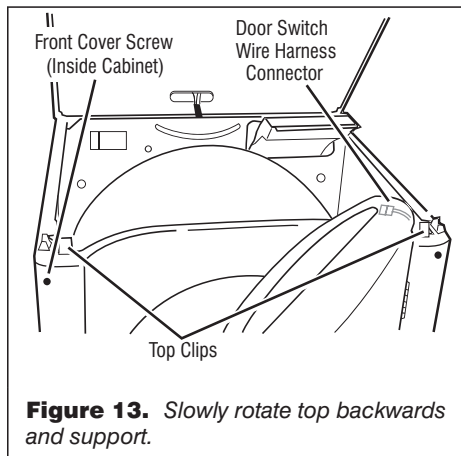

Figure 13. Slowly rotate top backwards and support.
5. Push on the retaining clips located under top of dryer on the right and left side using a flat object such as a putty knife. See figure 13.
7. Disconnect the door switch wire harness located on the right side. See figure 13.